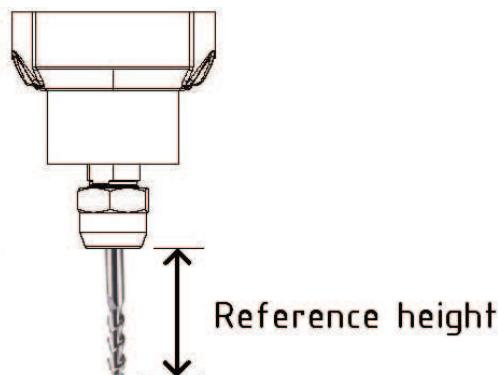

Figure 11.7: Measure the height of the tool with respect to a convenient reference point (e.g. the clamping nut)
- Measure the distance between a reference point which is suited for your milling machine (e.g. the clamping nut) and the tip of the clamped tool; as can be seen in Figure 11.7.